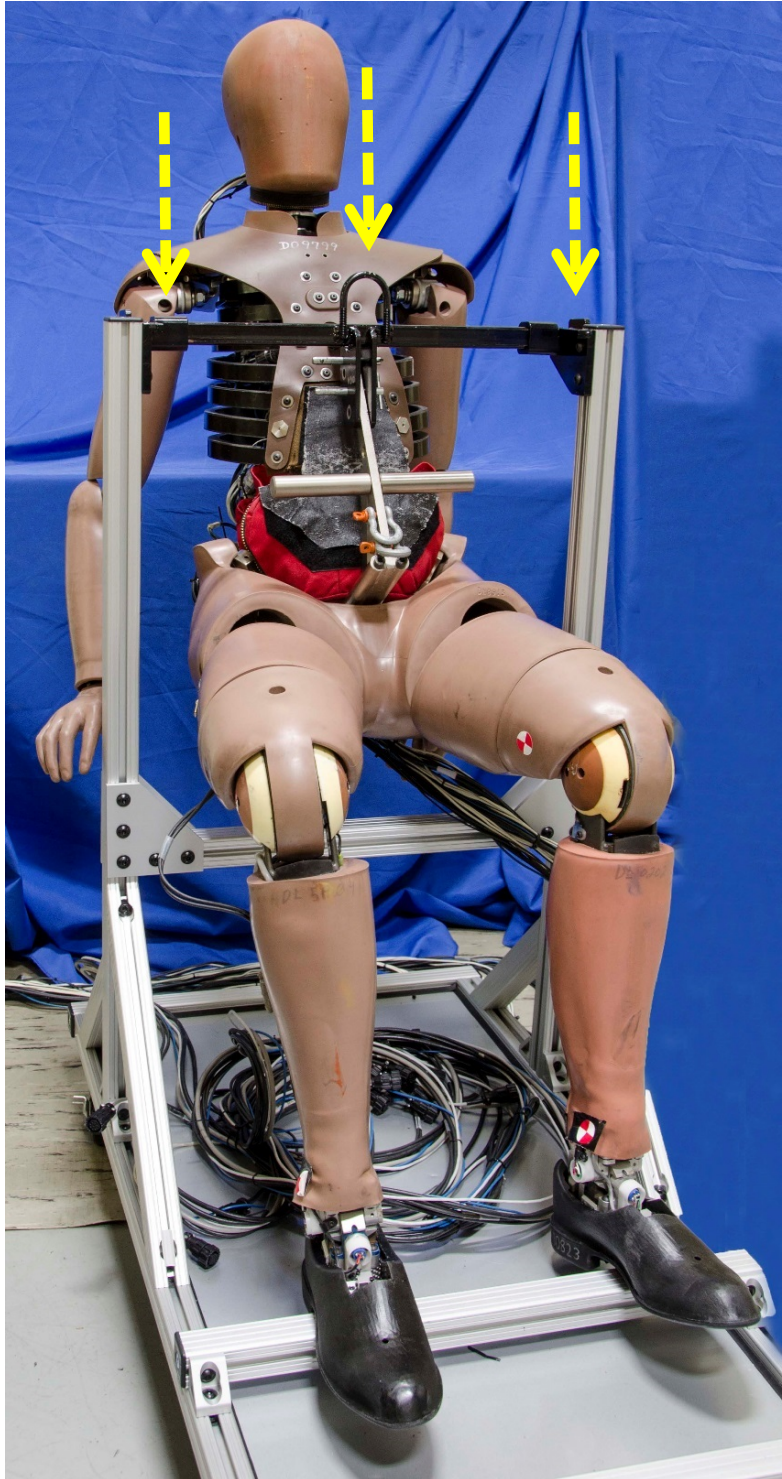

Figure 2-10. THOR-50M installed in storage chair
- 2.3.1.3 Lift the THOR-50M over the storage chair using the hanger assembly and install to the storage chair brackets (Figure 2-10). Slide the hanger slide tubes (DL110-0720) towards the ends of the hanger tube to lock the hanger assembly into place on the chair. Position the heels behind the bar on the floor of the chair.